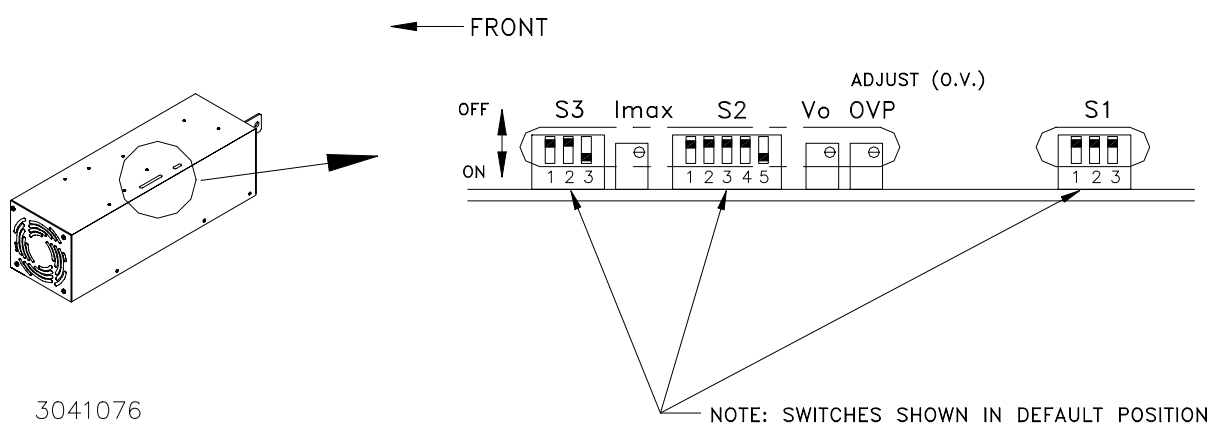

FIGURE 2-1. HSM SERIES OUTPUT CONTROLS AND CONFIGURATION SWITCH FUNCTIONS
a) **Output and Configuration Controls:** Refer to Figure 2-1 and Table 2-1.
A simple operational check after unpacking and before equipment installation is advisable to ascertain whether the power supply has suffered damage resulting from shipping. Refer to Figures 2-1 and 2-2 for location of operating controls and electrical connections.